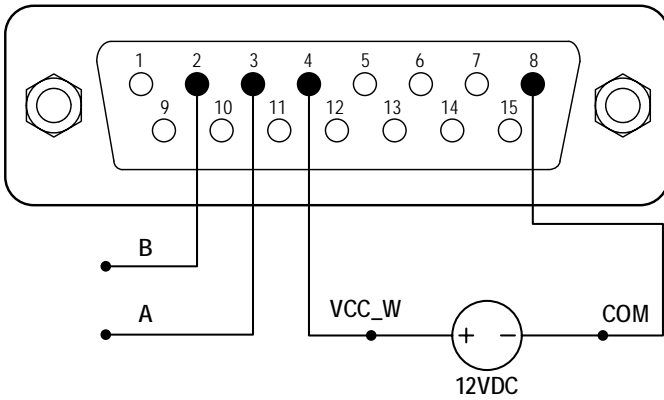

Figure 53. RS485 MODBUS Wiring
- 1) Turn the power off. Wire the DB15 connector as shown on Figure 53, and connect it to the DB15 port on the rear of the pump. External DC power source is recommend to avoid electrical interference.